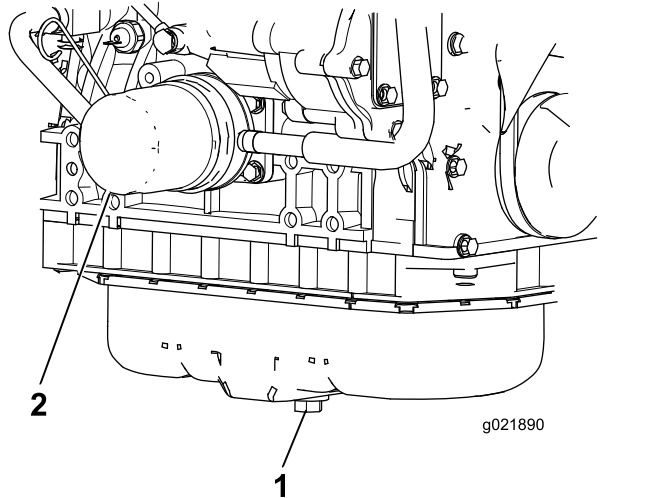

Figure 60
1. Remove the drain plug (Figure 60) and let the oil flow into a drain pan. When all the oil is drained, install the drain plug.
2. Remove the oil filter (Figure 60). Apply a light coat of clean oil to the new filter seal before screwing it on. **Do not overtighten.**